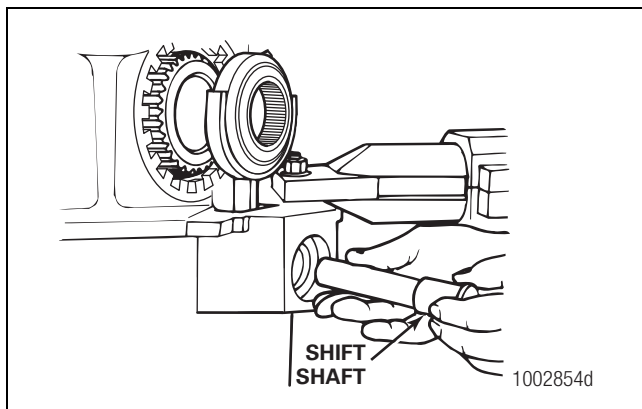

Figure 17
- Apply grease, Meritor specification 2297-U-4519 or 1199-U-1113, to the tapered surface of the shift shaft. Insert the shift shaft into the housing bore through the shift fork and spring. Figure 17. Use a centering tool to seat the shift shaft in the housing bore. Refer to the tool drawing at the end of this bulletin.